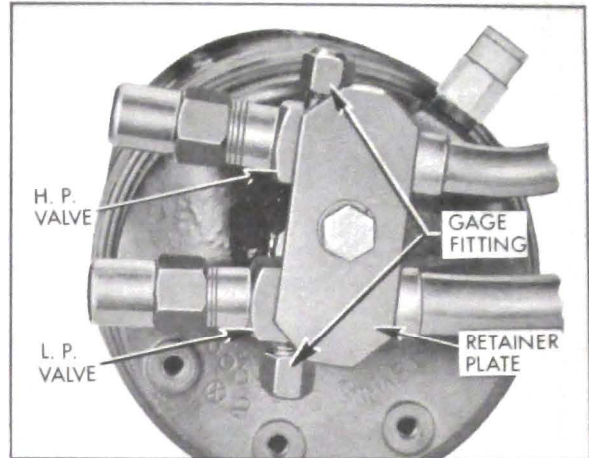

Figure 11-44—High and Low Pressure Service Valves
3. Remove protective caps and firmly shut off both valves on rear of compressor by turning valve stem clockwise. See figure 11-44.